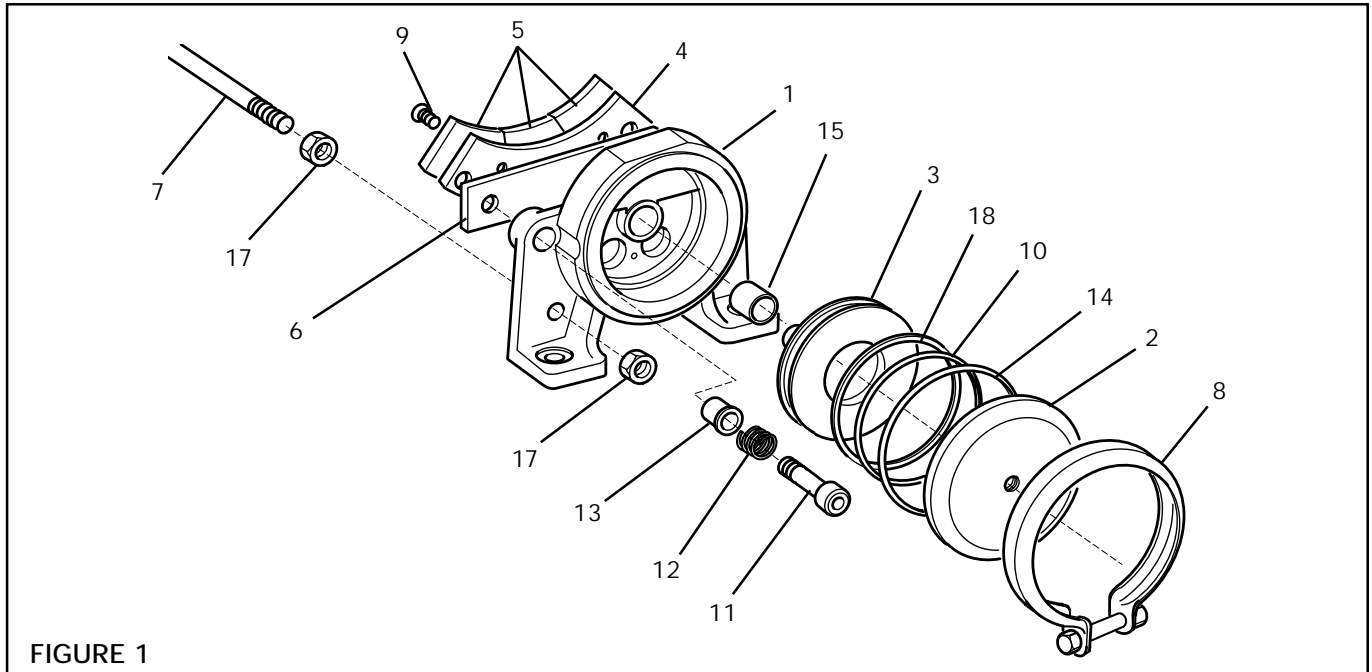

FIGURE 1
1. Remove Shoulder Screws (Item 11) and Springs (Item 12) (See Fig. 1).
2. Remove Spacer (Item 6), Shoe (Item 4), and Friction Facings (Item 5) (See Fig. 1).
3. Remove Machine Screws (Item 9), securing the Friction Facings to the Shoe (See Fig. 1).
6. Remove the Clamp Bolt from the Ring Clamp (Item 8) (See Fig. 1).
7. Remove the Ring Clamp (Item 8) (See Fig. 1).
8. From the back side of the Cylinder (Item 1), push the Piston (Item 3) and End Cap (Item 2) out of the Cylinder (See Fig. 1).
9. Remove the Back-Up Seal (Item 18) and O-ring Seal (Item 10) from the Piston (Item 3) (See Fig. 1).
10. Remove the O-ring Seal (Item 14) from the End Cap (Item 2) (See Fig. 1).
14. Install new O-ring Seal (Item 10) and Back-Up Seal (Item 18) onto Piston (Item 3) (See Fig. 1).
19. Insert Shoulder Screws (Item 11), and Springs (Item 12) through the Cylinder (Item 1), and Spacer (Item 6) (See Fig. 1).
20. Screw the Shoulder Screws (Item 11) into the Friction Facing Shoes (Item 4) (See Fig. 1).